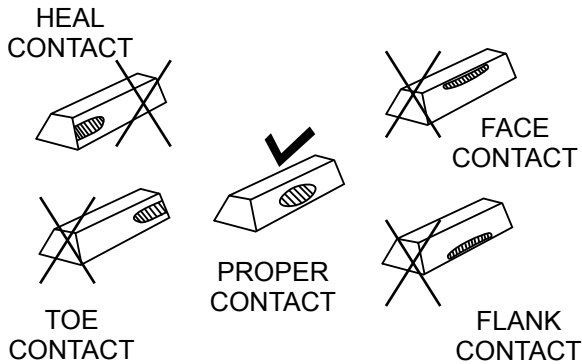

Figure 29. Gear Teeth Alignment
4. If gear teeth are not contacting properly (Figure 29), adjust pillow block to correct the problem.